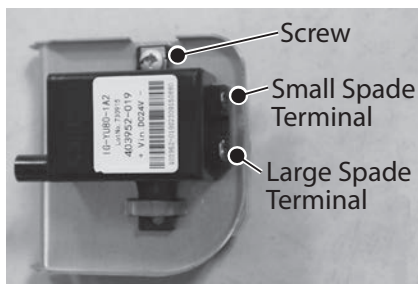

Figure 123 - Disconnecting ignitor assembly
- 11 Disconnect the two spade terminal connections at the back of ignitor and remove ignitor assembly and bracket from water heater. See Figure 123.